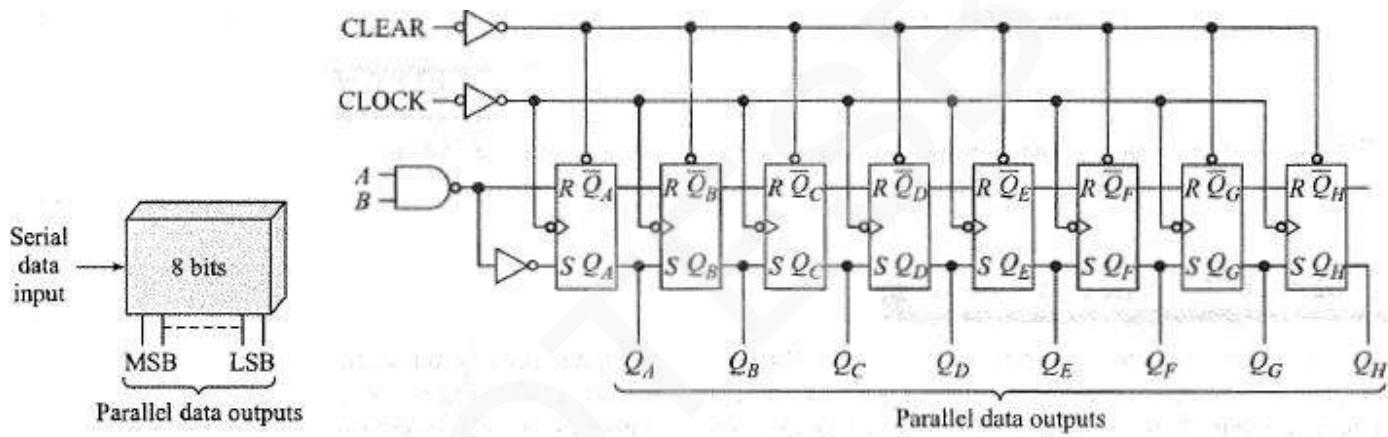

Figure 9.7:74164 8-bit shift-register
- It is constructed by using eight RS flip-flops (Figure 9.7).